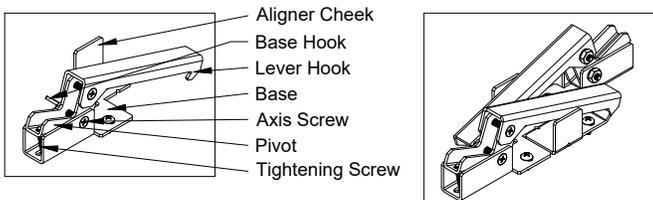
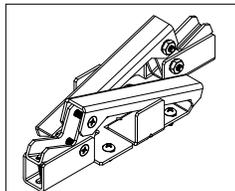
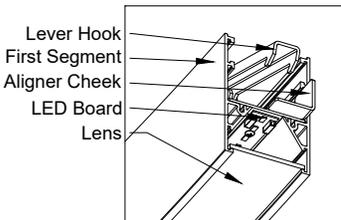
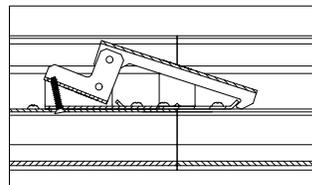

Fig. 10. Joiner Bracket
Fig. 11. Joined Brackets
Fig. 12. Joiner Details (fixtures with $\varnothing > 12'$)
Fig. 14. Joiner engagement.
3. Each segment end has joiner bracket (Fig. 10). Brackets installed the way they located side by side in opposite directions when two adjacent segments joined together (see Fig. 11). Each bracket has base hook and lever hook (Fig. 10). Lever hook of one segment's bracket has to engage with base hook of another segment's bracket (Fig. 11).
4. Install the second fixture segment as described in step 2 above. Both segments come close. Level the second segment to the first one. Join LED connectors if fixture has run through harness (Fig. 13). Skip this step if each segment has separate LED feed. Move segments together the way that aligner cheek of one bracket is aimed to housing pocket of another segment (Fig. 12).
5. Move segments together till clicks (both hooks engaged). See Fig 14 for details. Adjust segment's level if needed. Find a hole in housing reflector (Fig. 12) to reach joiner bracket tightening screw (Fig. 10) with long Phillips screwdriver. Tighten both bracket's screws alternately (Fig. 14). Screw will turn the pivot and pull lever hook inside the fixture. Tighten both screws alternately from both sides to reach complete engagement and alignment of both segment. Make sure both segments aligned completely without any visible gap in between housings.